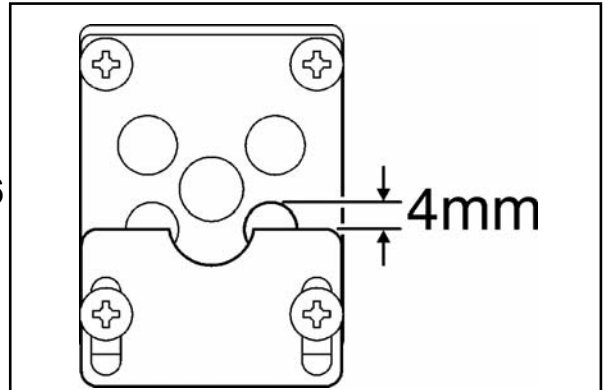

Figure 46. Aeration shutter setting
1. The aeration shutter is factory set and should not require adjustment. If the shutter is not as shown in figure 46 and requires adjustment, loosen the two aeration shutter screws, slide the aeration shutter to the position shown in figure 46 and tighten the fixing screws.